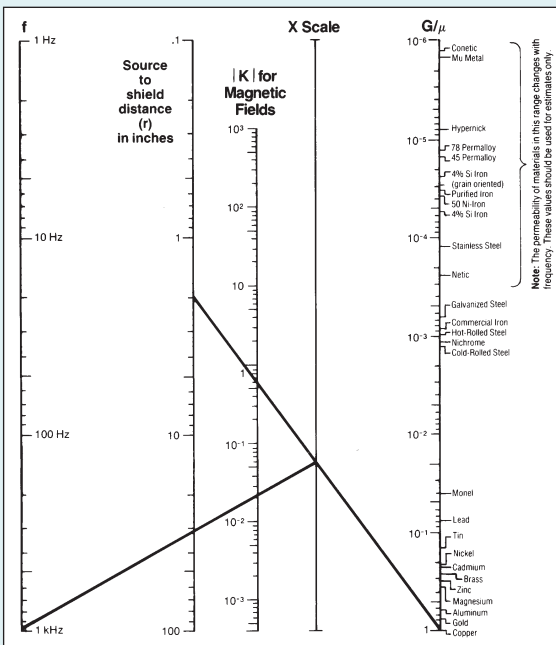

Figure 8 Magnetic Field Secondary Reflection Loss Factor Nomograph¹
The nomograph shown in Figure 8 was designed to solve for $|K|$ in equation (6). Note that when Z_H becomes much smaller than Z_S ($K > 1$), large positive values of B may result. These produce very large and unrealistic computed values of S.E., and imply a low frequency limitation on the B equation. In practical cases, absorption losses (A) must be calculated before B can be obtained.¹
Magnetic Field Secondary Reflection Losses $|K|$ Figures 8 and 9: